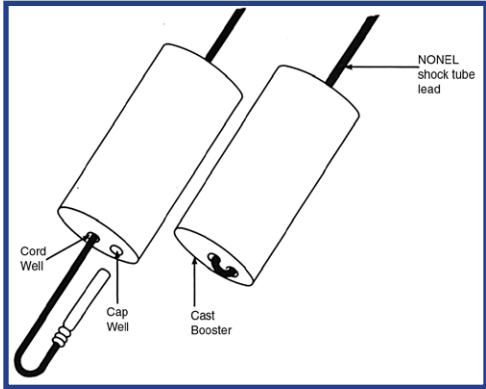

Figure 56 - NONEL / booster assembly.
**For cast boosters**, thread the NONEL unit (of appropriate length) through the cord well of the cap primer and insert detonator fully into the cap well (Figure 56).